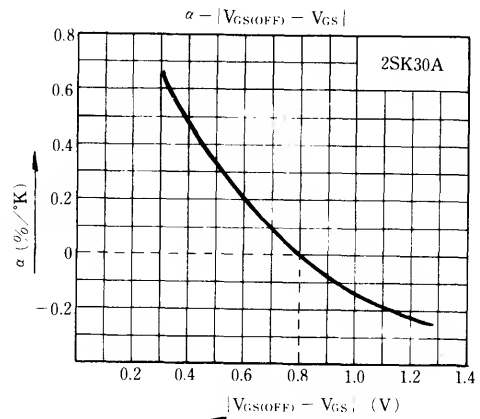

Fig. 26 $\alpha - |V_{GS(OFF)} - V_{GS}|$ characteristic
Fig. 26 shows the measured values of 2SK30A; it indicates that they agree well with equation (3).